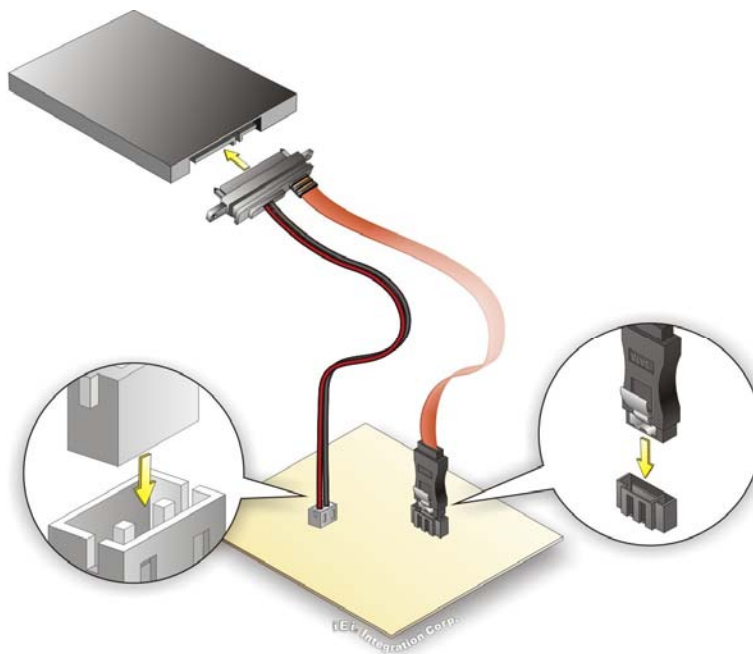

Figure 4-9: SATA Drive Cable Connection
Step 2: Insert the cable connector. Insert the cable connector into the on-board SATA drive connector and the SATA power connector. See **Figure 4-9**.
Step 3: Connect the cable to the SATA disk. Connect the connector on the other end of the cable to the connector at the back of the SATA drive. See **Figure 4-9**.